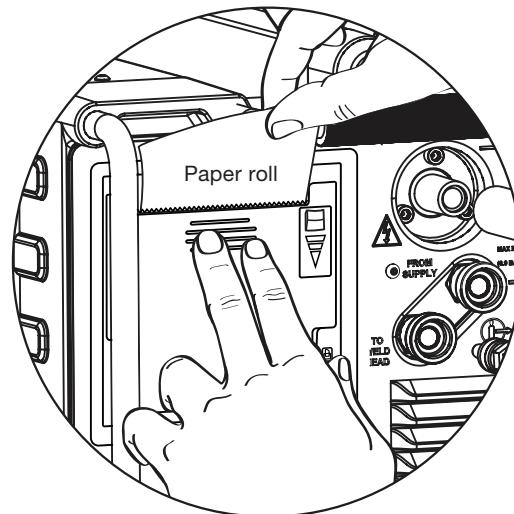

Fig. 54—Closing the printer door
5. When closing the printer door, use two fingers and press the center of the door just below the paper. This insures that the printer door is fully closed (Fig. 54).